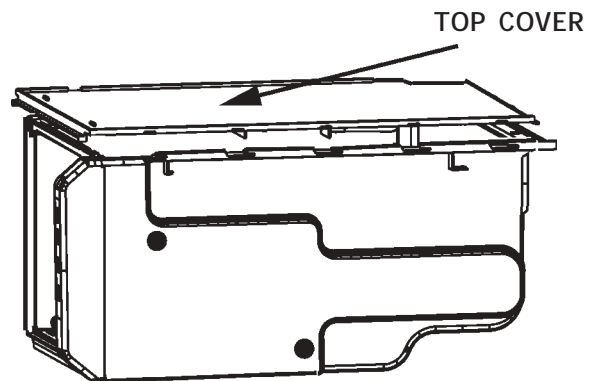

Figure 2-6
- Pull the top cover forward and then up to remove. (See Figure 2-6)